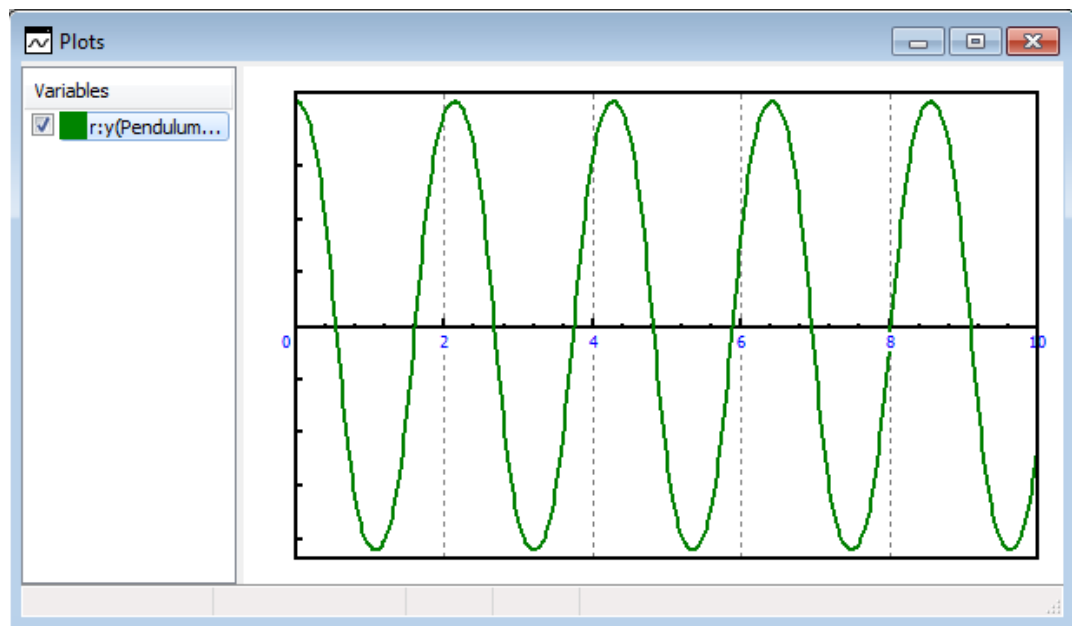

Figure 1.20. Creating the plot of the variable in the graphical window
- You can see the plot of your variable in the graphical window, see in Figure 1.20.